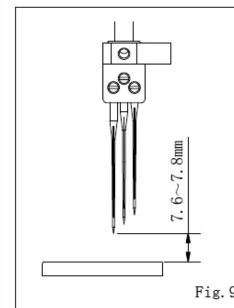

Fig. 9
1. 先将针棒升到最高处, 此时最长针的针尖与针板的距离为 7.6~7.8mm。(图9)
1. Please lift the Needle Bar to the highest position. During this time, the standard height between the longest right needle point and Needle Plate are 7.6~7.8 mm. (Fig. 9)